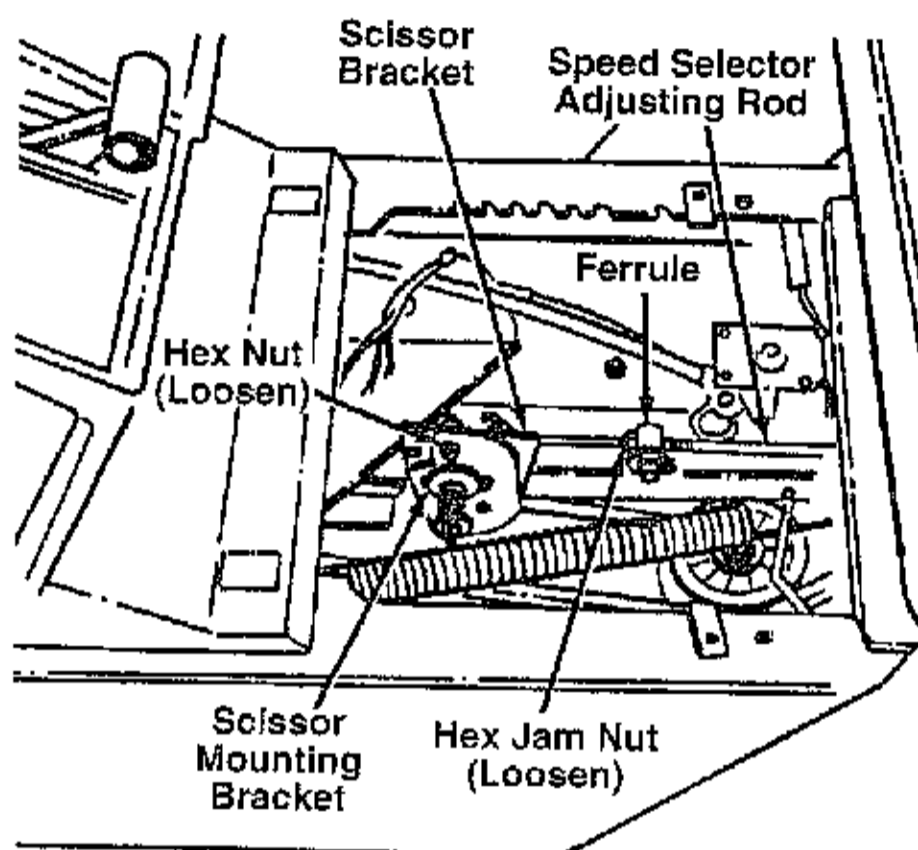

FIGURE 11.
3. Loosen the hex jam nut on the speed selector adjusting rod. See figure 11.
4. Loosen the hex nut on the scissor mounting bracket. See figure 11.